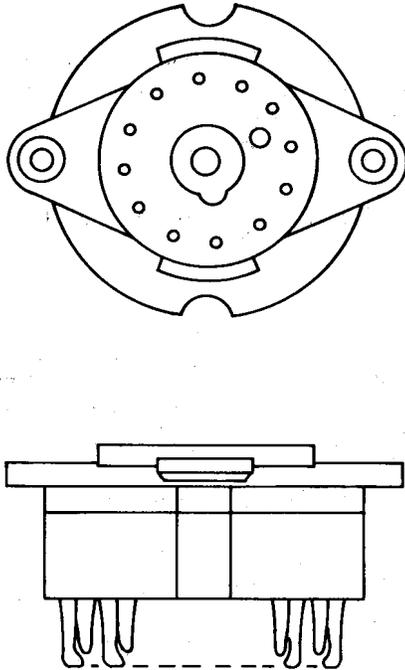

Fig. 23—541A-Type Jack
2.19 **541A-49, 541A-50, and 541A-54:** These flush-type jacks (Fig. 23) consist essentially of a block of insulating material containing 12 contacts having clip-type terminals. Each clip terminal permits the connection of two insulated wires in multiple without the removal of the conductor insulation. The associated 504A-type plug can be inserted in one position only. These 41A-type jacks are used with portable telephone sets having two through twelve conductor mounting cords in prewired homes (subscriber stations). They form part of the 547B-type jacks and can be mounted on a 63A bracket with a 16A-type faceplate.